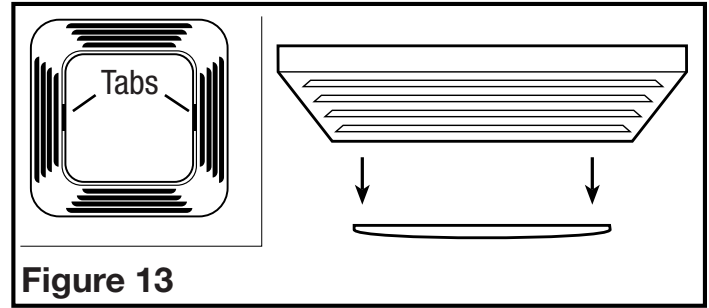

Figure 13
- Changing the Light Bulb:** Disconnect power to the unit. Remove the light lens by squeezing at the tabs and pulling down (**Figure 13**). Remove light bulb and refer to instructions in **Section 6** *Completing the Installation*, to complete the light bulb change and installation of light lens